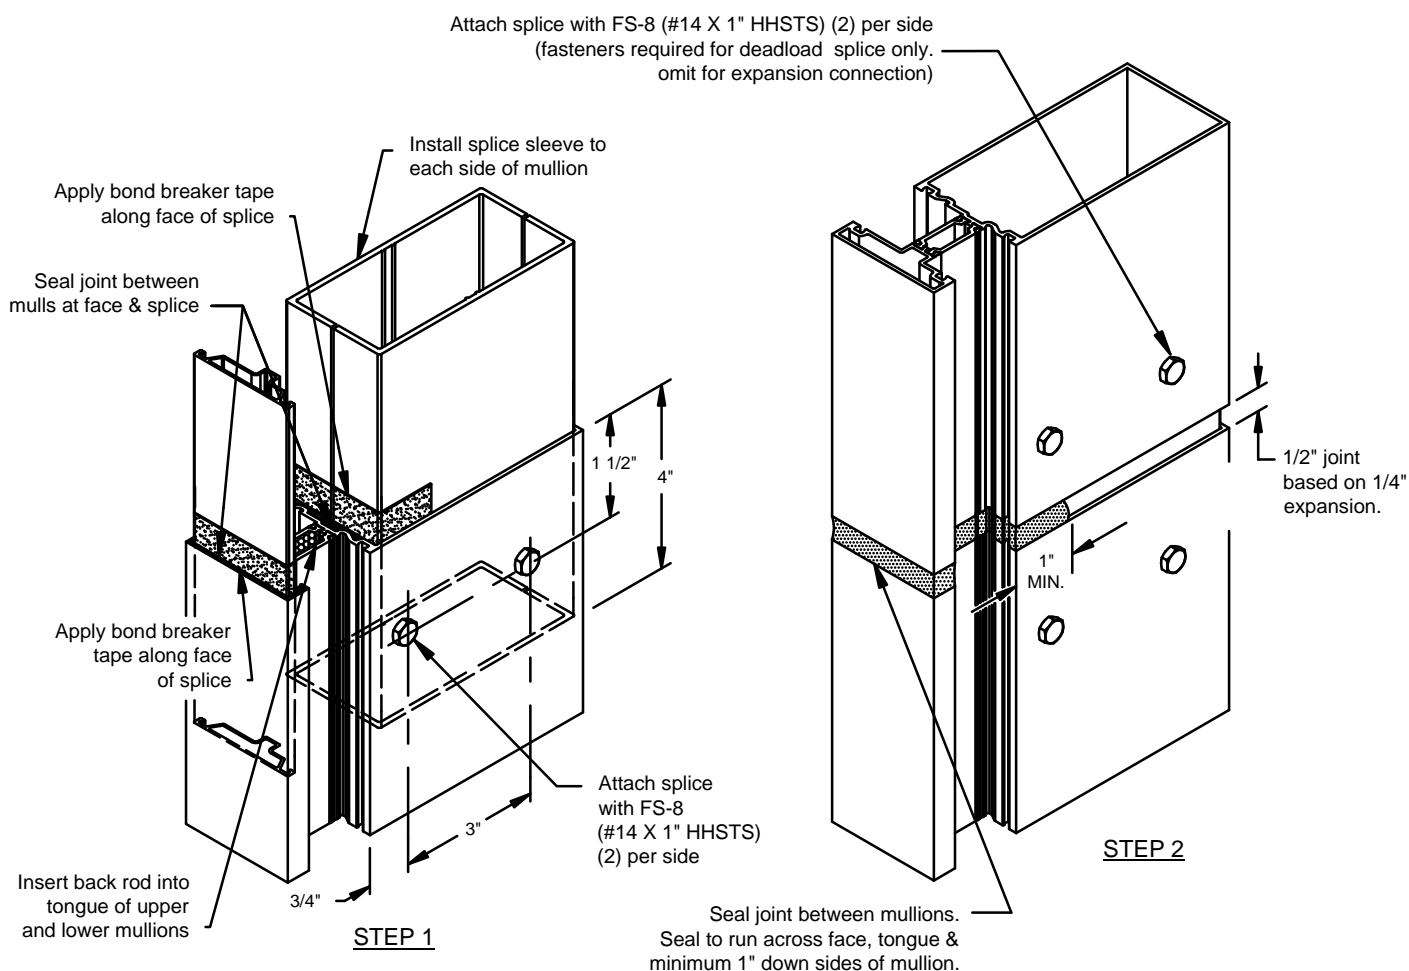
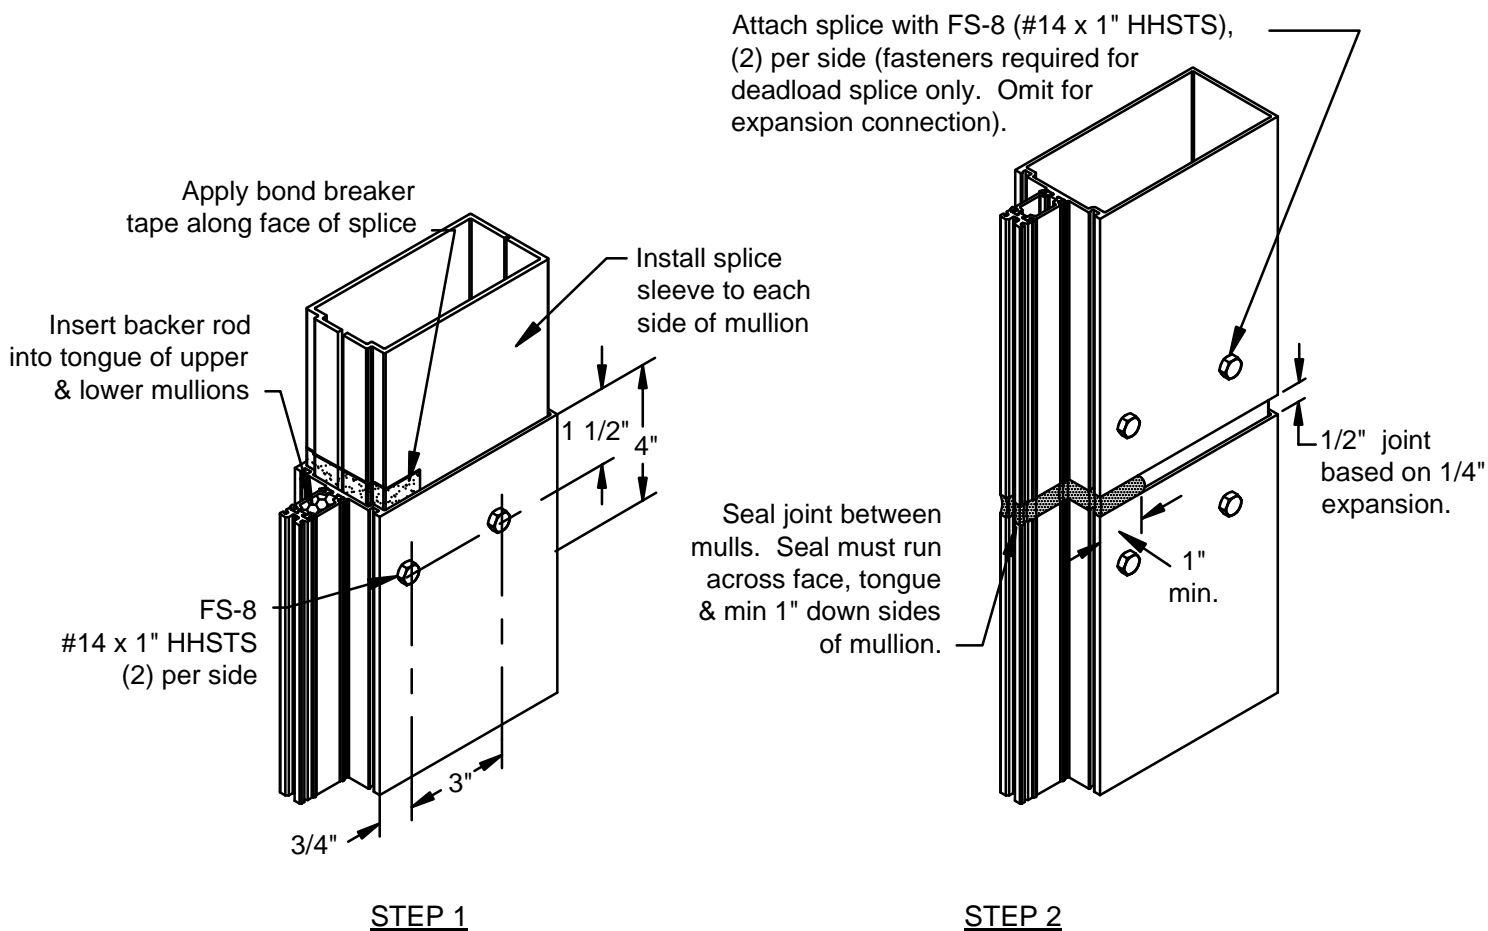

FIGURE 9
FIGURE 10
- 2.1.14 Install the next vertical above, temporarily shimming between verticals to maintain proper splice joints (refer to approved shop drawings). SEE FIGURE 9 & FIGURE 10, page 15